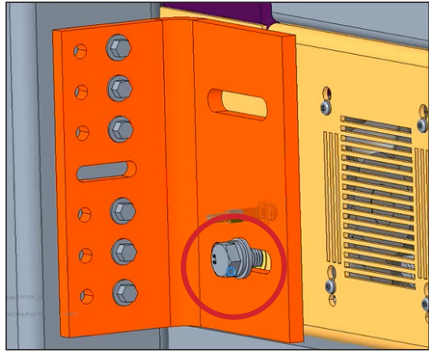

Figure 15: Secure Bottom Clip Location from Rear
- For rear installations, install the M12 bolt, M12 washer, and M12 split lock washer supplied with the display hardware through the top hole on the display clip into the bottom nutsert location in the stitched section. Tighten to 30 ft-lbs [41 N-m]. Refer to **Figure 15**.